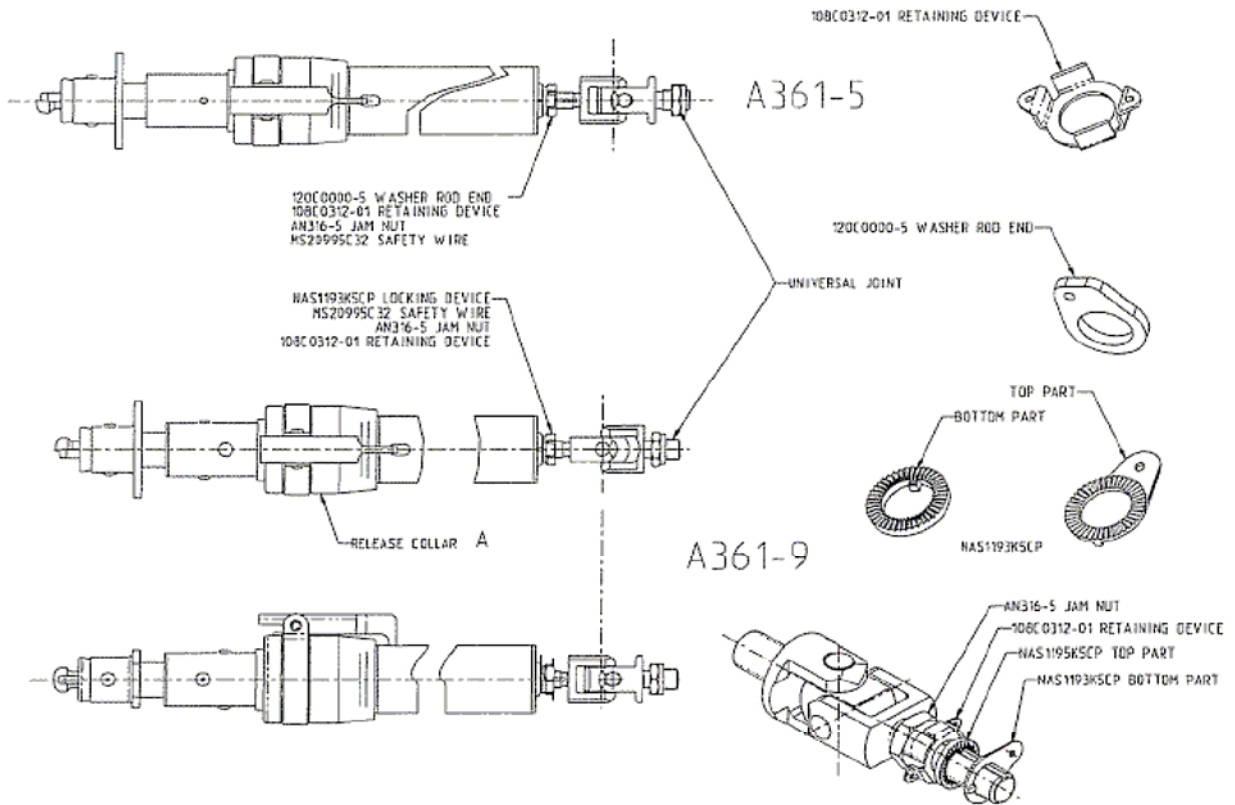

FIGURE 1
A. Disassembly (See Figure 1)
- (1) Cut safety wire MS20995C32 and discard.
- (2) Using a .500 open-end wrench, loosen jam nut AN316-5 approximately 4 turns by rotating counterclockwise.
- (3) Slide retaining device 108C0312-01 back with jam nut AN316-5.
- (4) Slide washer rod end 120C0000-5 back out of slot in strut end fitting.
- (5) Remove universal from strut assembly by rotating counterclockwise.
- (6) Discard washer rod end 120C0000-5 and retaining device 108C0312-01.
B. Assembly (See Figure 1)
- (6) Thread universal into strut end fitting by rotating clockwise.
- (7) Continue rotating until extended and locked length of $43.00 \pm .06$ is obtained.
- (8) Adjust position of universal joint as shown on figure 1.
- (9) Engage key on top part of NAS1193K5CP with slot in strut end fitting
- (10) Engage serrations of bottom part with top part.
- (11) Rotate jam nut AN316-5 and retaining device 108C0312-01 together clockwise until contact with NAS1193K5CP is made.
- (12) Torque jam nut AN316C5 to 30/50 lb.-in.
- (13) Install new safety wire MS20995C32 in accordance with MS33540.